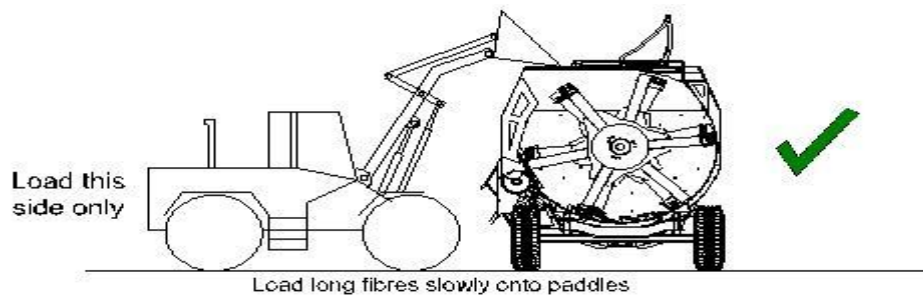

Figure 6: Loading the Keenan Mech-Fiber 380 mixer wagon
- l) Load only from the side indicated – see figure 6 (auger chamber side) using suitable equipment.